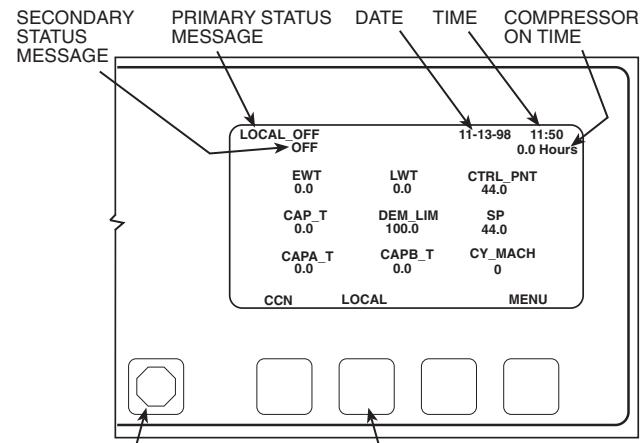

Fig. 13 — Remote Enhanced Display Default Display Screen, *ComfortLink* and 30GX,HX PSIO Based Units
- The remote enhanced display will automatically revert to the default screen after 15 minutes if no softkey activity takes place (Fig. 13).